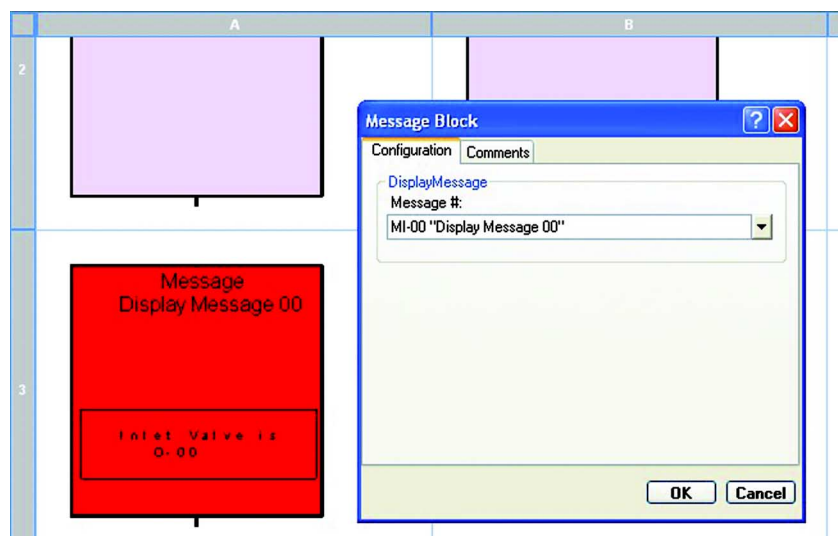

Figure 1-10 “Message Block” dialog box for cell A3
4. Enter data in the various fields in the dialog box as shown in Figure 1-10. Click the “OK” button when finished.